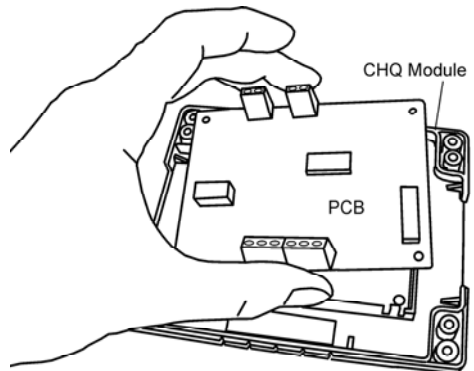

Fig 2
- ❑ Hold the PCB by the plastic terminal blocks (see Fig 2) and carefully remove from the CHQ Module housing.